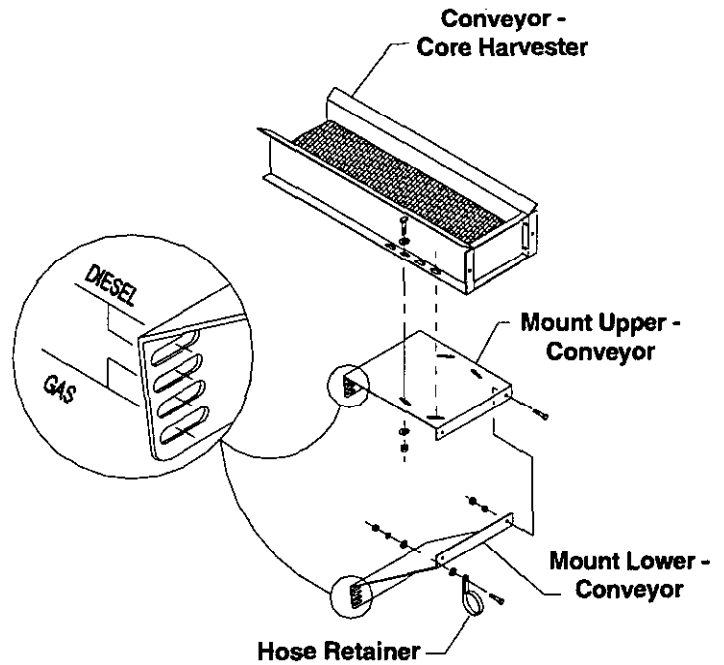

Figure 1
ATTACHING ADAPTER KIT TO CORE HARVESTER (Fig. 1 & 2)
3. Attach the Mount Upper-Conveyor to the undersides of the conveyor as shown in Fig. 1 using existing bolts and nuts. Secure fasteners.
8. Attach the Mount Lower-Conveyor to the Upper Conveyor as shown in Fig. 1 using 3/8 x 1 bolts and nuts.